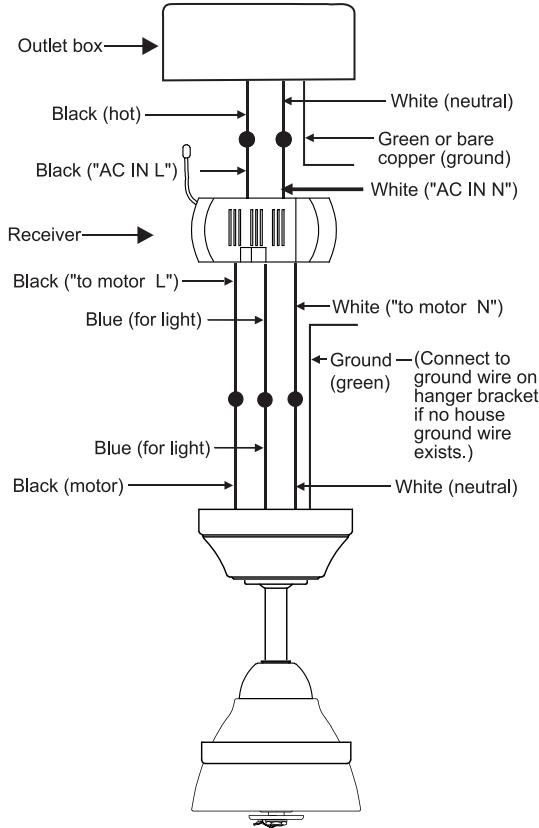

Fig. 15
Step 2. Motor to Receiver Electrical Connections: (Fig.15) Connect the black wire from the fan to the black wire marked "TO MOTOR L" on the receiver. Connect the white wire from the fan to the white wire marked "TO MOTOR N" on the receiver. Connect the blue wire from the fan to the blue wire marked "FOR LIGHT" on the receiver. Secure all the wire connections with the plastic wire nuts provided.
Step 3. (Fig.15) Receiver to House Supply Wires Electrical Connections: Connect the black (hot) wire from the ceiling to the black wire marked "AC in L" from the receiver. Connect the white(neutral) wire from the ceiling to the white wire marked "AC in N" from the Receiver. Secure the wire connections with the plastic wire nuts provided.
Step 4.(Fig.15) If your outlet box has a ground wire (green or bare copper) connect it to the fan ground wires; otherwise connect the hanging bracket ground wire to the mounting bracket. Secure the wire connection with a plastic nut provided. After connecting the wires, spread them apart so that the green and white wires are on one side of the outlet box and black and blue wires are on the other side. Carefully tuck the wire connections up into the outlet box.